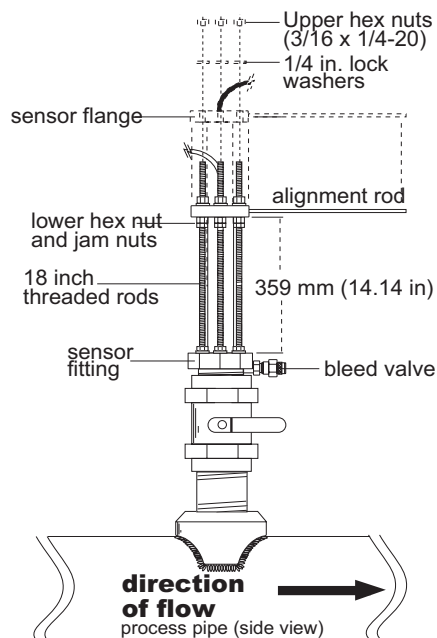

Fig. 11
- D. Secure the sensor with lock washers and upper hex nuts on the top of the flange. Before tightening, align the sensor flange so that the alignment rod is parallel and level with the process pipe. (Fig. 10 & Fig. 11)